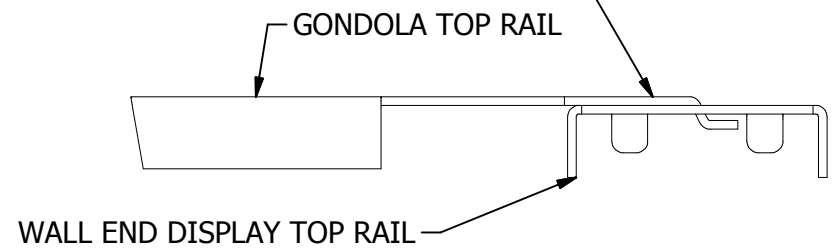

FIGURE 5B
STEP 6: Install the gondola top rail by inserting the tabs on the end into the slots on the wall end display top rail. Rotate the gondola top rail down on top of the uprights. Note: Make sure the tabs are fully seated in the slots (see FIGURE 5A AND FIGURE 5B).